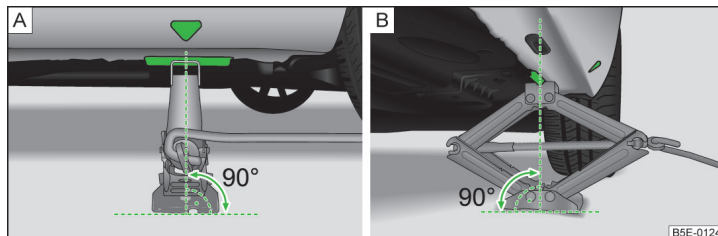

Fig. 92 **Attach lifting jack**
- › Position the base plate of the jack with its full area resting on level ground and ensure that the jack will fit in the jacking point when raised » fig. 92 - [\[A\]](#).
- › Use the crank to raise the jack until its pawl covers the jacking point» fig. 92 - [\[B\]](#).